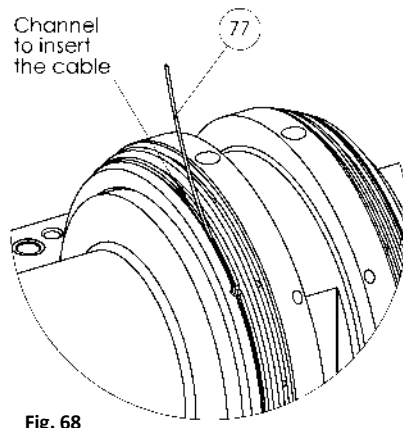

Fig. 68
- Insert the RTD cable (77) into the channel on the bearing shell (Fig. 68). Insert the cable into the whole channel extension.